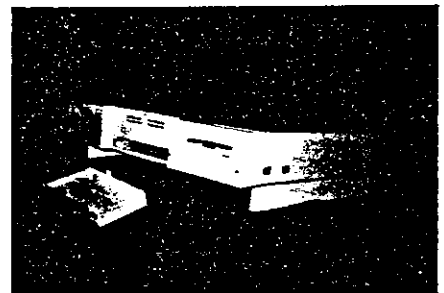

Fig. 2-2. Front/Side View
**2.1.3** Remove mouse from connector, if present. See Fig. 2-2.
**2.3.1** With the computer facing you and the drive on your right, remove the RAM DISPLAY COVER by applying light pressure on the top and bottom of the center panel and gently pulling toward you. See Fig. 2-2.